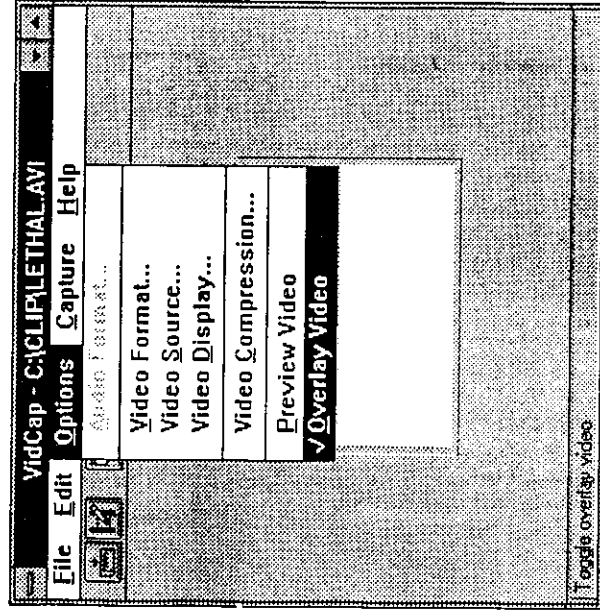

Figure 3-19.
1. In the VidCap program window, CLICK on "Video Format" under Options to set screen size (see Figure 3-19).